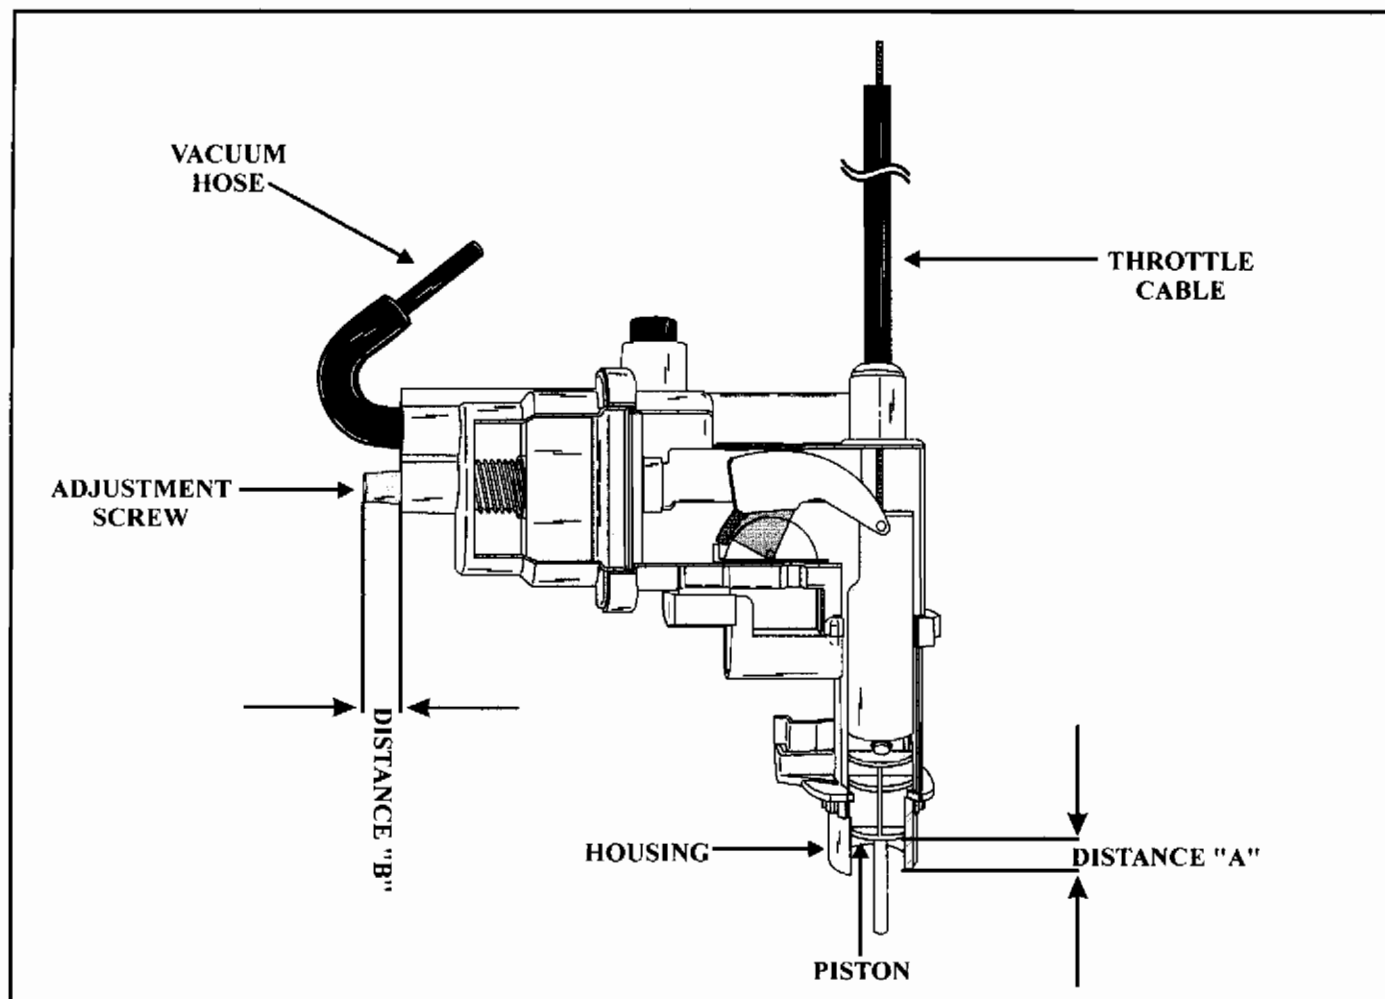

Figure 7
(1) Remove vacuum hose(s) and supply 12 in. hg. (400 mbar) to upshift delay vacuum actuator.
(2) Pull pressure control cable (T.V.) to a full load stop.
(3) Measure distance "A", shown in figure 7, which is the distance the upshift delay piston protrudes from the housing.
(4) If upshift delay is working properly, vehicle will take off in 2nd gear and the 2-3 shift will occur above 30 MPH (48 KPH).
(5) If vehicle starts in 1st gear upshift delay is too high.
(6) If the 2-3 shift occurs at less than 30 MPH (48KPH), upshift delay is too low.
(7) Turn adjusting screw shown in figure 7, **clockwise** to **lower** shift points.
(8) Turn adjusting screw shown in figure 7, **counterclockwise** to **raise** shift points.
(9) If upshift delay vacuum actuator is being replaced, transfer measurement "B" to new actuator.